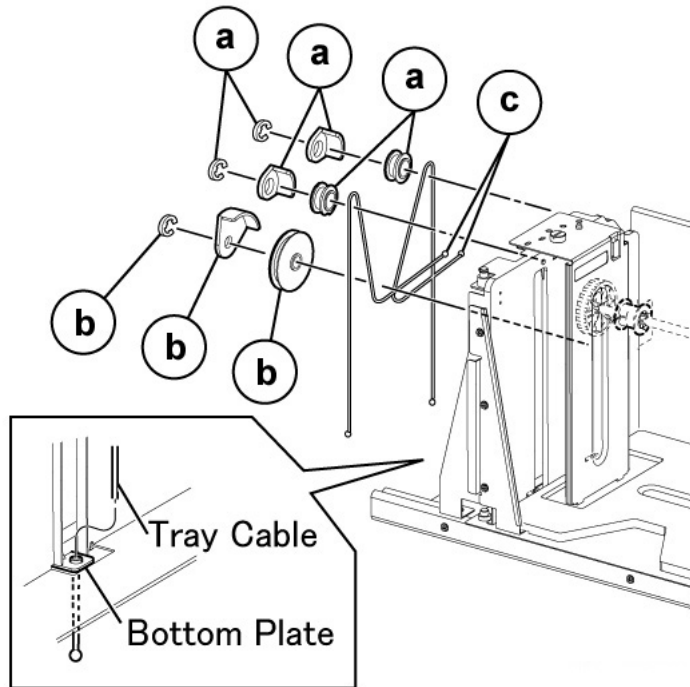

Figure 3 Rear Tray Cable details
4. Remove the E-Clips, Wire Guides, and Pulleys from the rear of the HCF Tray. **Figure 3**
- a. Remove (2) E-Clips, (2) Wire Guides, and (2) Pulleys.